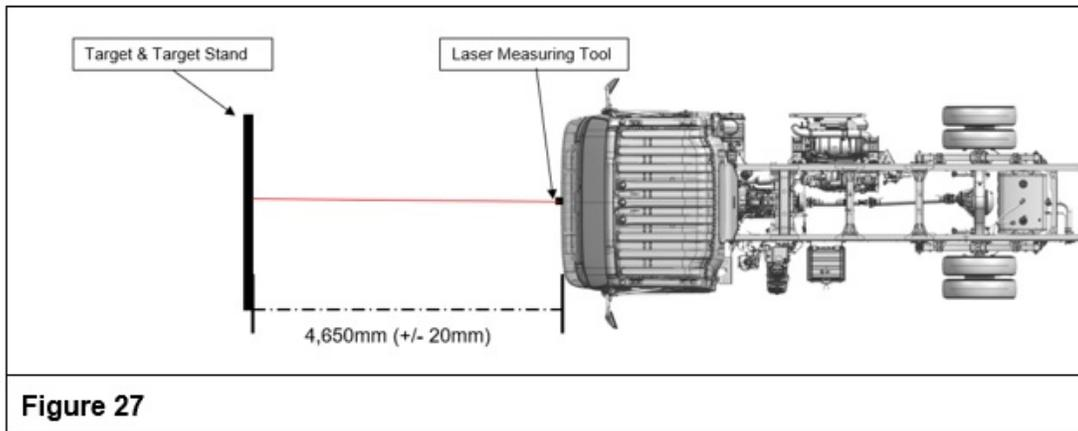

Figure 27
36. Using the Laser Measuring Tool, place the center of the Target 4,650 mm (+/- 20 mm) from the center of the front bumper cover. (See Figure 27.)